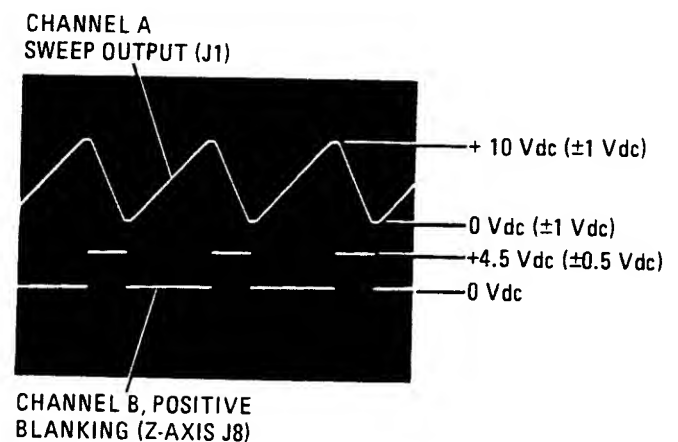

Figure 4-12. Positive Blanking at J8 Compared in Time to Sweep Output at J1
- p. Adjust oscilloscope to display waveforms as shown in Figure 4-12.